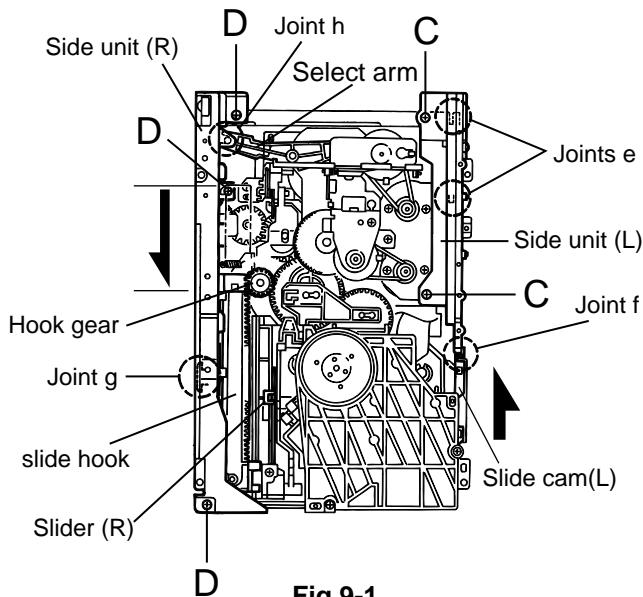

Fig.9-1
■ Removing the side unit (L) and (R) (See Fig.9-1 to 9-5)
1. Remove the two screws **C** attaching the side unit (L).
2. Slide and remove the side unit (L) toward the front while releasing the two joints **e** and the joint **f** with the chassis unit.
3. Slide the slide cam (L) toward the front until it stops to place the sub chassis unit at the top position.
- ATTENTION: The side unit (R) can be removed when the sub chassis unit is located at the top position.
4. Turn the hook gear counterclockwise to move the slide hook and the slider (R) backward until they stop.
5. Remove the three screws **D** attaching the side unit (R). Raise the side unit (R) upward and release the joint **g** with the chassis unit and the boss from the select arm marked **h**. Then remove the side unit (R) from the body.